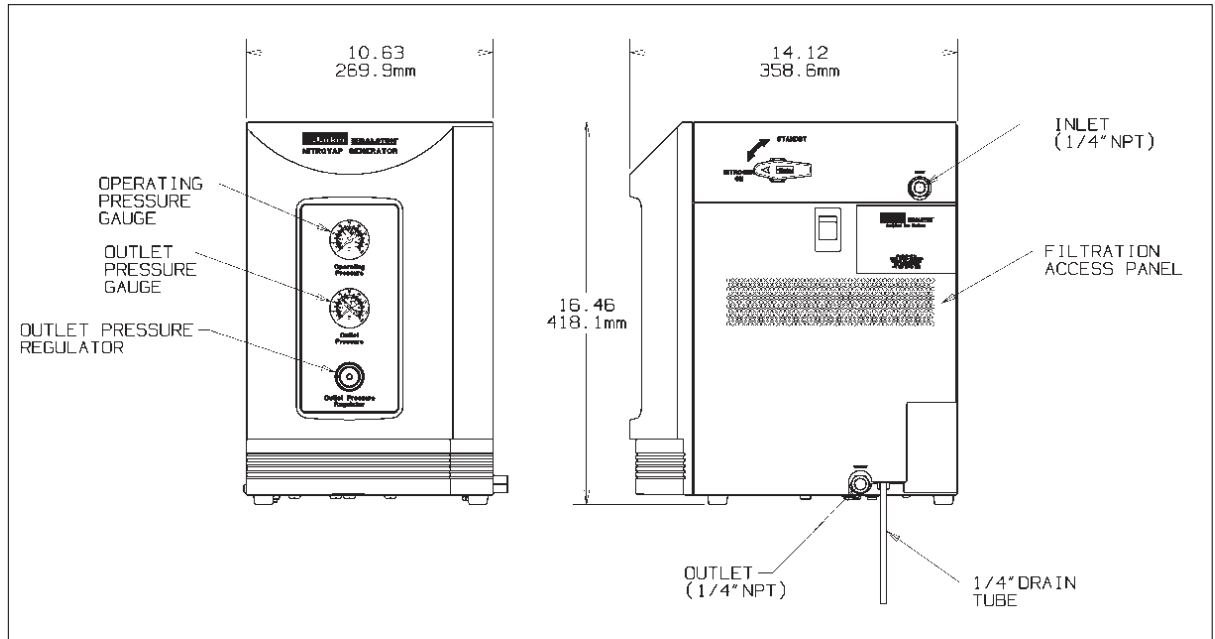

Figure 1 - Nitrovap-1LV and Nitrovap-2LV Nitrogen Generator
The Nitrovap Nitrogen Generator includes all the components required to convert compressed air into high purity nitrogen (see Figure 1). The user need only connect a supply of compressed air to the inlet of the nitrogen generator and connect the outlet of the generator to the process requiring high purity nitrogen.
A coalescing prefilter is incorporated into the Nitrovap Nitrogen Generator to protect the membrane module from contamination. This filter is located behind the filtration access panel, and it removes liquids and particulate matter from the incoming air supply. The filter is equipped with a float drain which automatically opens to empty any liquids which accumulate inside the filter housing. The drain is connected to 1/4" O.D. plastic tubing which discharges to atmosphere at the back of the nitrogen generator (see Figure 1).
The controls in the Balston Nitrogen Generator consist of an inlet pressure gauge, an outlet pressure gauge, and a pressure regulator (see Figure 1). The outlet pressure regulator allows the user to set the pressure of the emergent nitrogen process stream.
**Drain Lines** - The 1/4" plastic drain lines from the coalescing prefilter (see Figure 1) should be piped away to an appropriate disposal container. The liquid in this drainage will consist primarily of water and compressor oil and should be disposed of properly.